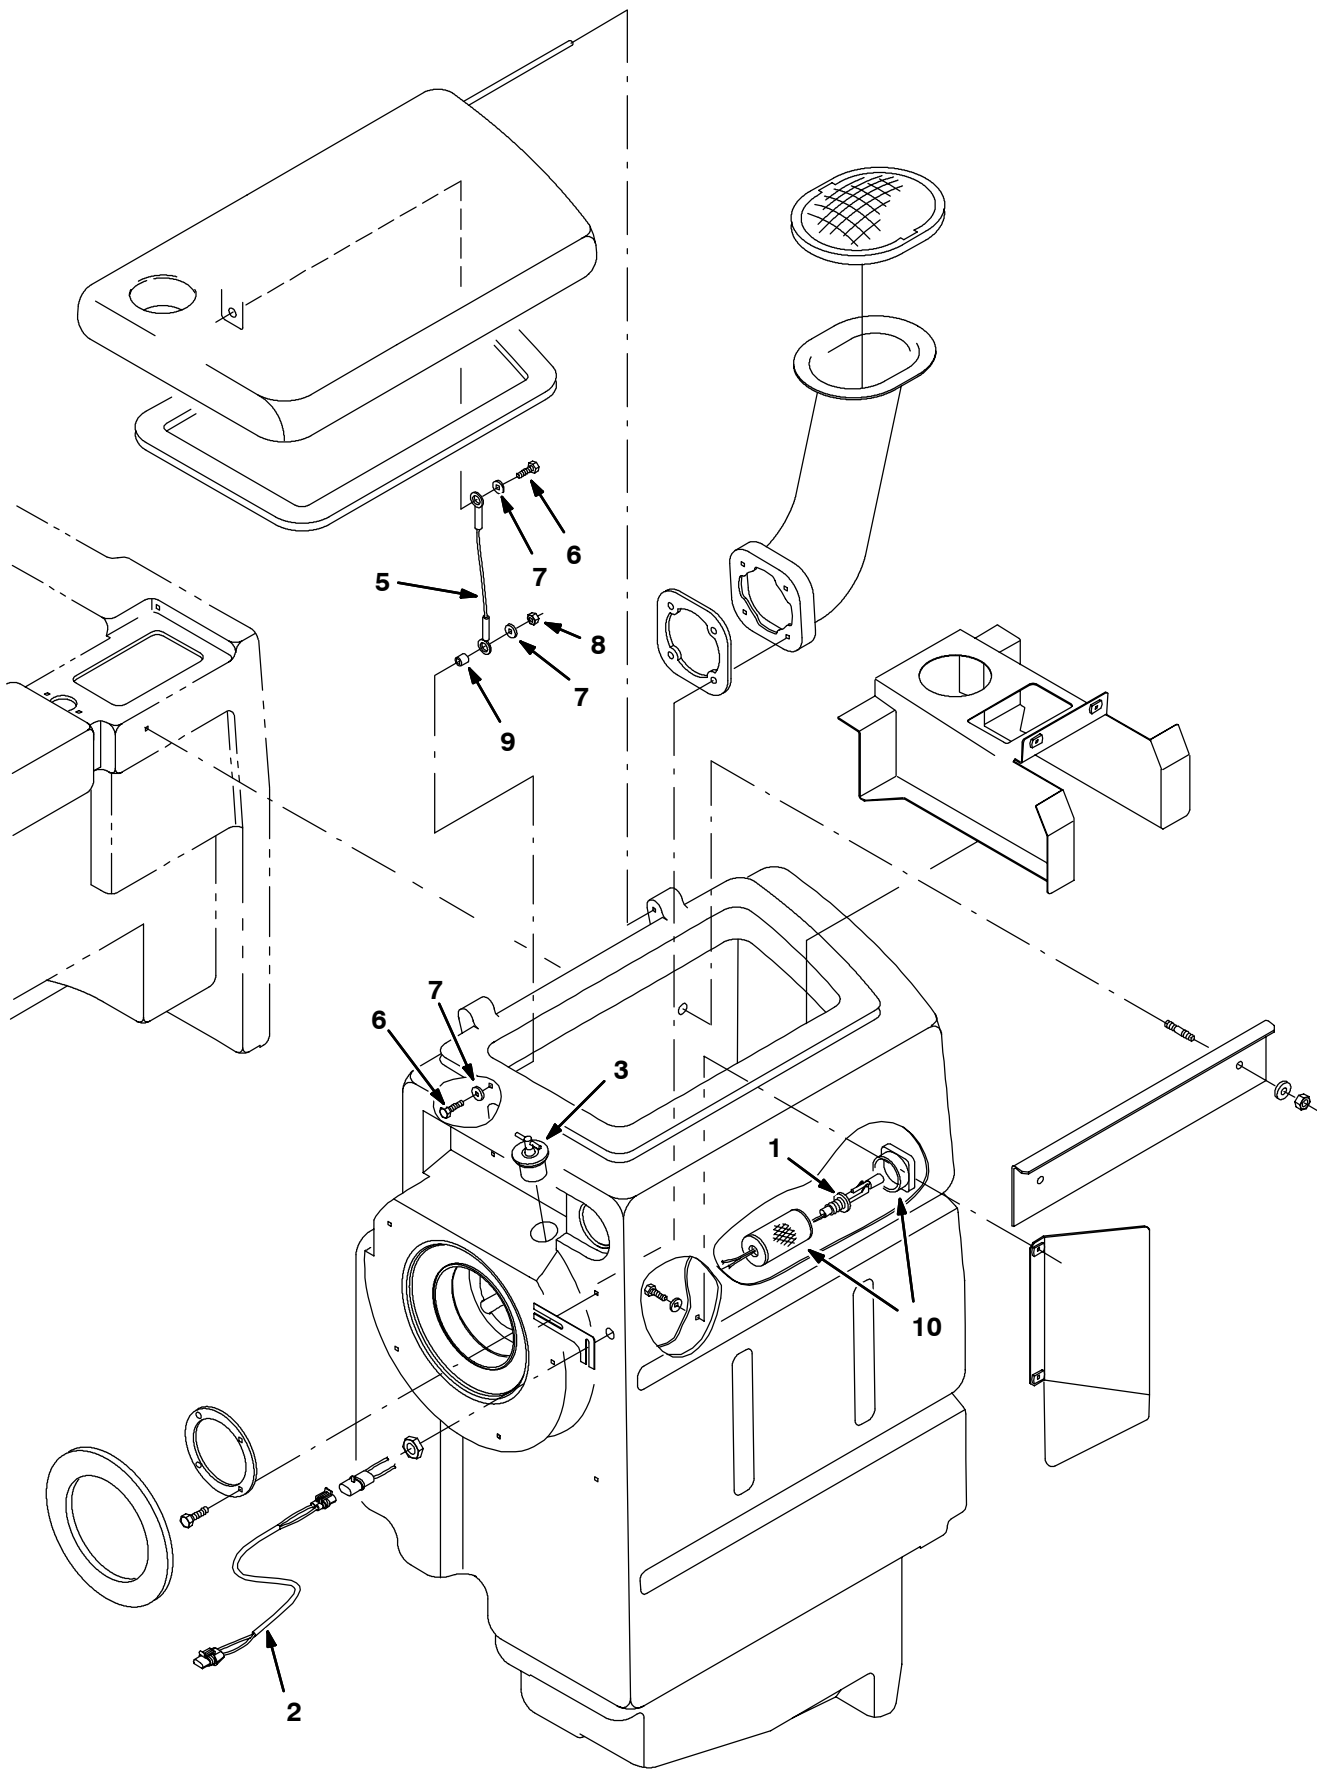
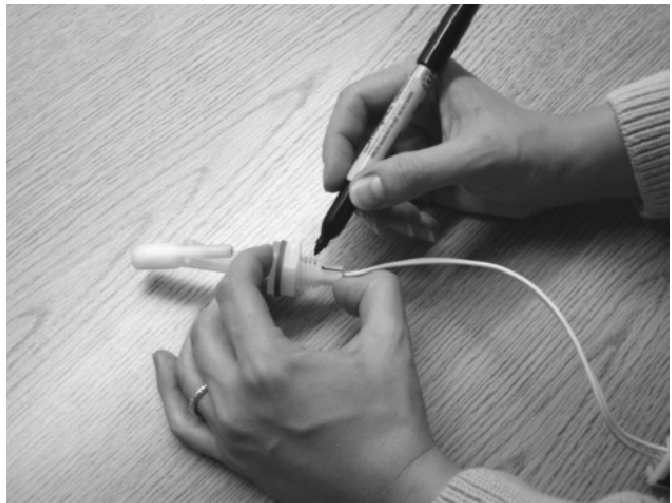

FIG. 3 - New Float Switch/Jumper Wire Installation
FIG. 5 - New Float Orientation
3. Install the expandable plugs (3) in the holes the tube switch and plug assembly were removed from. (Refer to FIG. 3)
9. Before installing the float switch: Hold the float switch, oriented in mounting position. Draw a line down the top of the threads with a black permanent marker. (Refer to FIG. 5)
11. Push the wires from the level sensor (1) through the large screen (10) opening and then through the small hole. (Refer to FIG. 3)
12. Install the red cap back onto the screen (10) end.
13. Install the connectors and locks onto the level sensor (1) wire terminals. (Refer to FIG. 3)
14. Install the new level sensor (1) in the 5/8" hole, from the inside of the tank, running the wires through the hole. (Refer to FIG. 3)
15. Install the nut onto the level sensor (1). Do not tighten at this point.
16. Position the float sensor so that the float is in the correct position. The float is correctly positioned when the narrow end of the float mechanism is pointed up, and the black mark drawn on the threads earlier, is on the top in the 12:00 position. (Refer to FIG. 5)
19. Connect the jumper wire (2) to the level sensor connectors and to the main wiring harness. (Refer to FIG. 3)
22. Remove the rubber stops from the original bracket and install one onto the new bracket (4). Adjust the latch and door stops.
24. Install the cable (5) and bushing (9) into the hole in the recovery tank. (Refer to FIG. 3)
25. Install the top end of the cable (5) onto the cover without the bushing (9). Rotate the top eyelet so it is perpendicular to the cover, and tighten the bolt. Check to make sure the cable swings out of the way of the cover seal when closing. (Refer to FIG. 3)